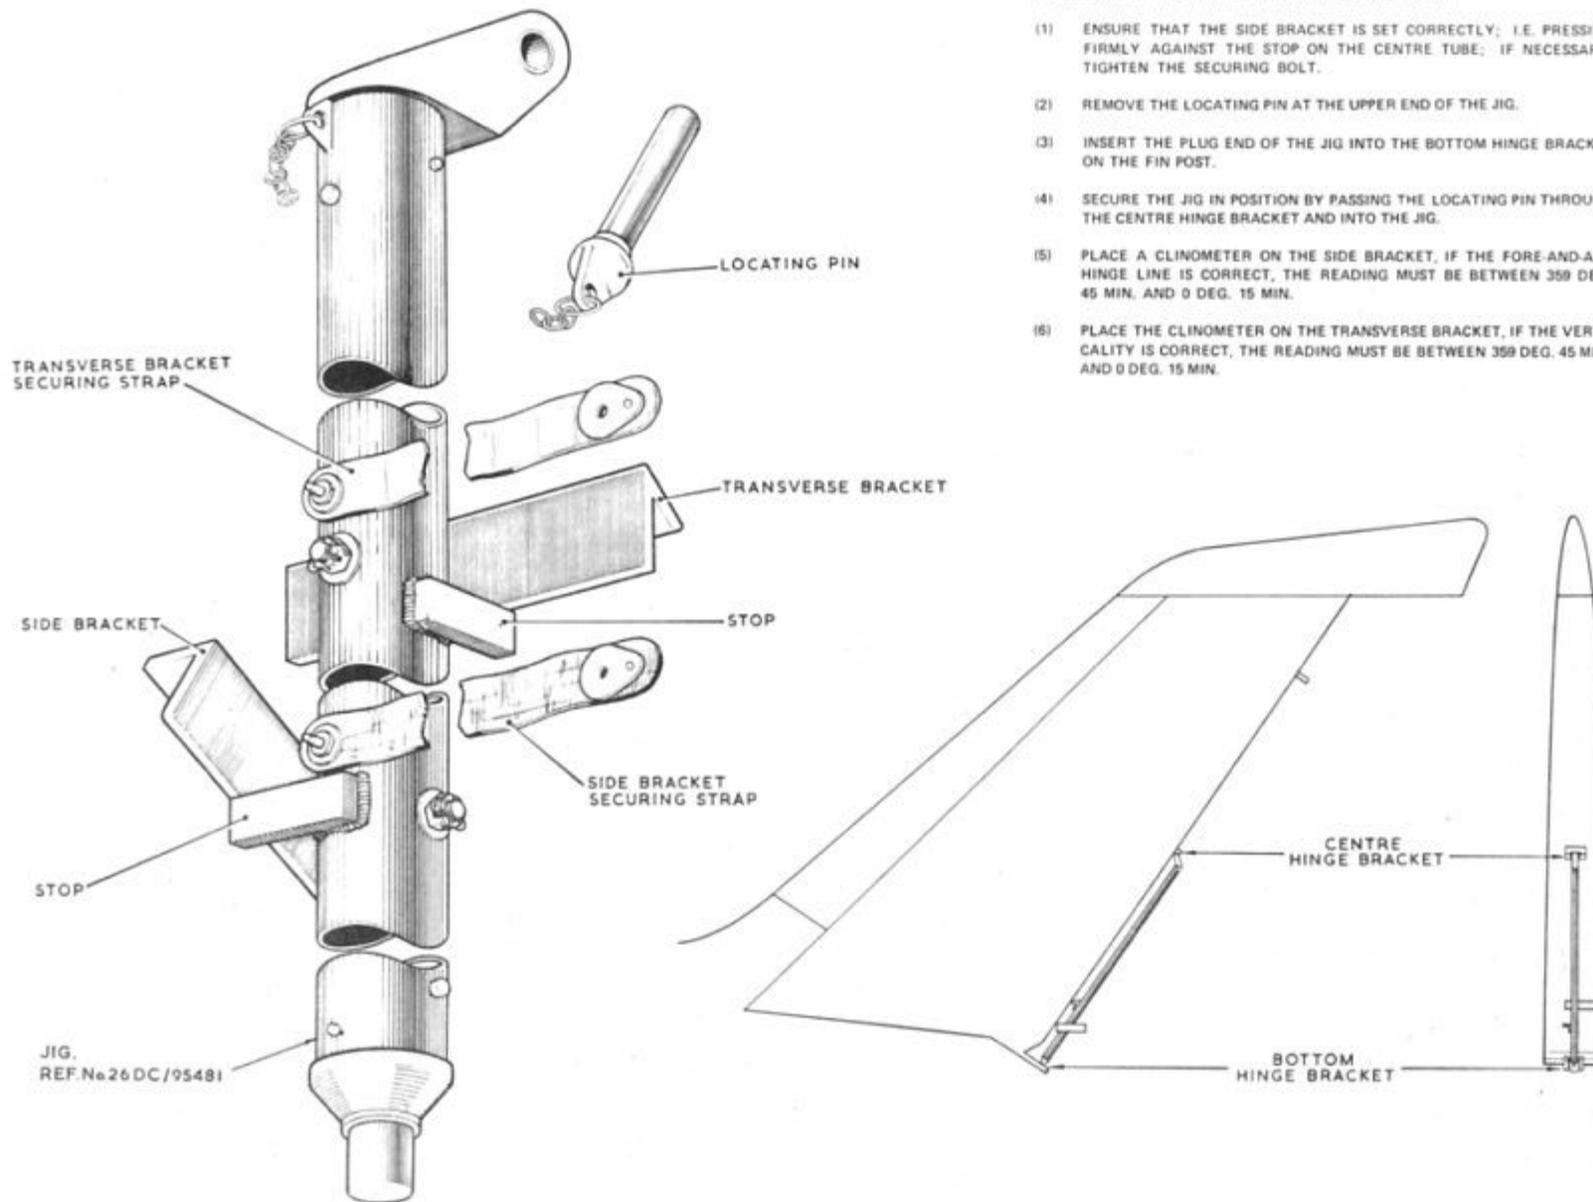

Fig.7 Fin verticality jig
22. The method of checking the fin verticality is given in fig.7.